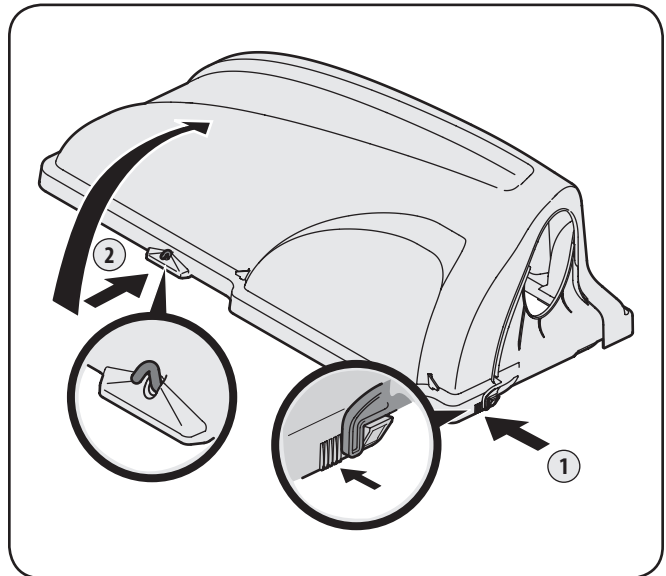

Figure 4-15
7. Open Hood by pushing in on the rear, right-side tab with your right hand, as seen in 1 of Figure 4-15, and lifting the cover with your left hand in the center rear of the bagger cover, 2.